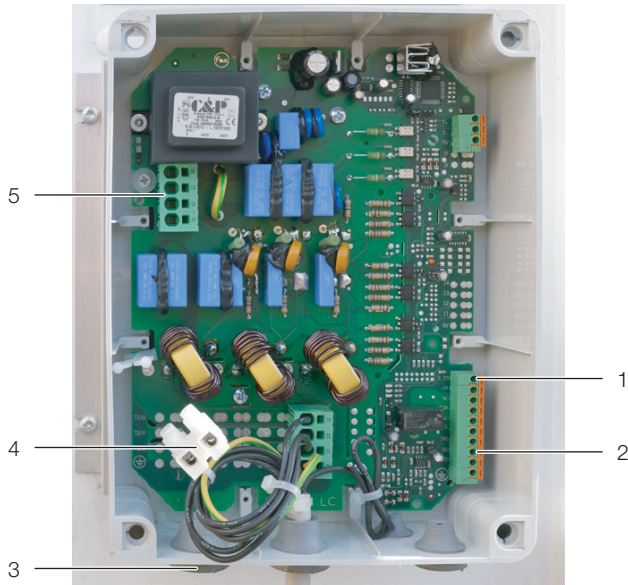
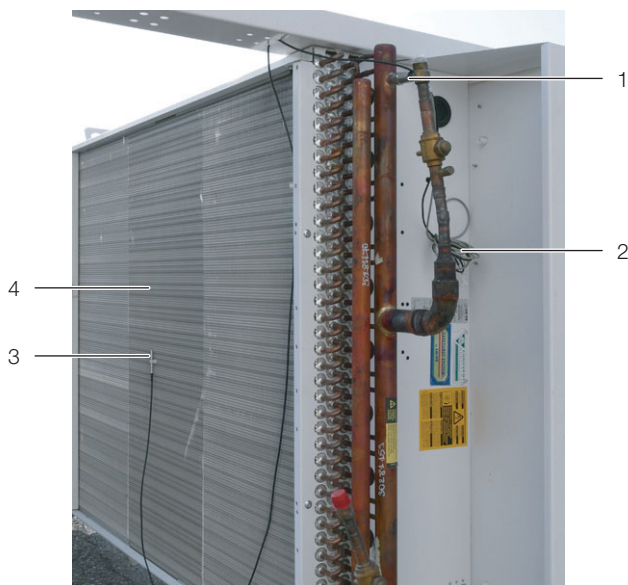

Fig. 28: Electrical connection on the condenser for indirect free cooling
Fig. 29: Connection of sensors
The voltage supply in the connection box (fig. 28, item 3) is connected on the condenser for indirect free cooling.
- Connect the cable to the connection clamps (fig. 28, item 5).
The control and/or signal cables must likewise be laid between the relevant connection points on the condenser for indirect free cooling (fig. 28, item 1, 2 and 4 and fig. 29, item 2) and the electronics box on the LCP DX/FC. Connection to the X2A terminal strip is made inside the electronics box.